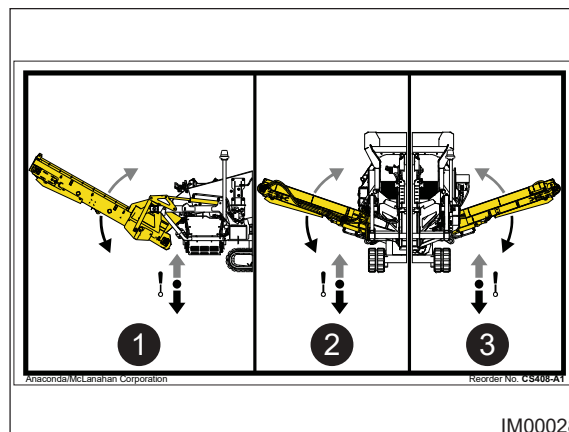

Fig: 10.6 - Control Levers
4. Slow and carefully push UP the control lever (Item 2, Fig: 10.6) to fold the mid-size conveyor.